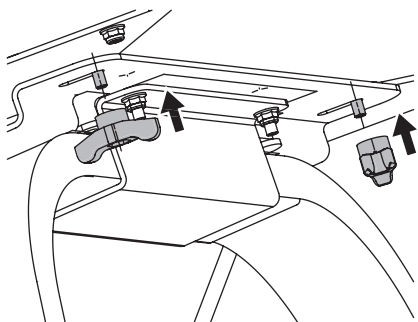

Figure 8
2. As seen in Figure 8, twist the knobs (Item #5) onto the pre-installed bolts.
1. To remove the canopy from the ROPS, unscrew the knobs (Item #5) from the bolts as shown in Figure 8.